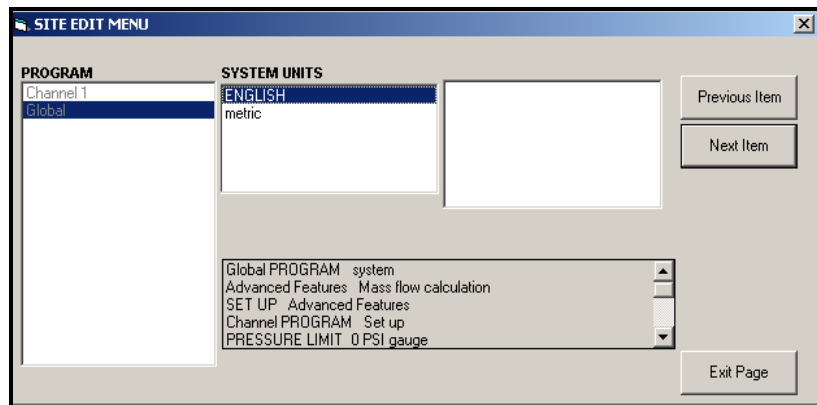

Figure C-14: System Option in the Global Menu
2. Highlight and double-click on the *System* option in the center pane. The window now appears similar to Figure C-14 below.